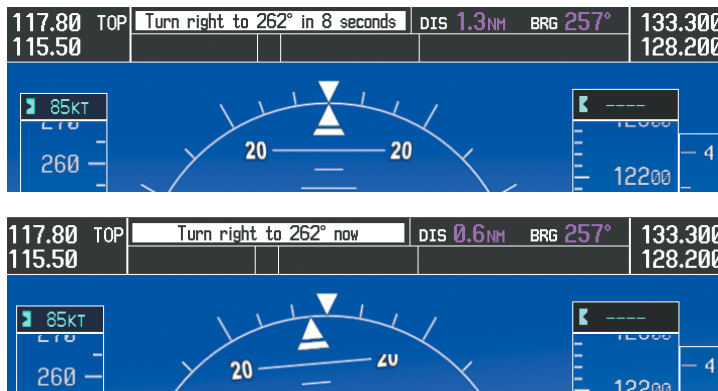

Figure 5-125 Turn to Intercept V244
8) At SLN, Victor Airway 244 (V244) is intercepted. Turn prompts are displayed in the PFD Navigation Status Box as seen in Figure 5-125.